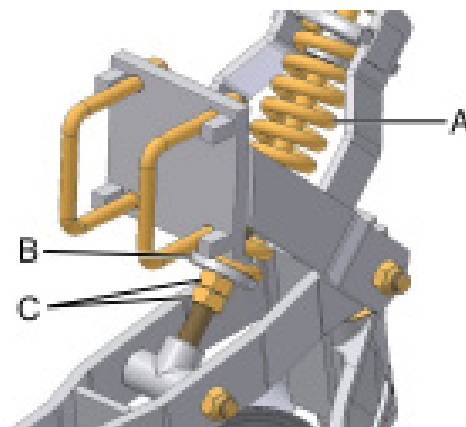

fig. 33
The depth of the cutting disk is determined by increasing the pressure of the spring (A) (fig. 33) through moving with the guide key (B), which is locked through the nut (C). Note that the measure adjusted shall be the same in all the springs of the lines.